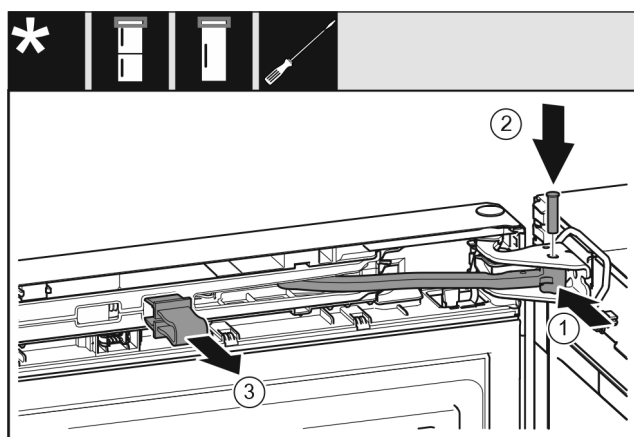

Fig. 42
- ▶ Turn the joint Fig. 42 (1) in the bearing block.
- ▶ Insert the bolt Fig. 42 (2) into the bearing bracket and joint. Ensure that the latching cam is in the groove properly.
- ▶ Remove the safeguard Fig. 42 (3).